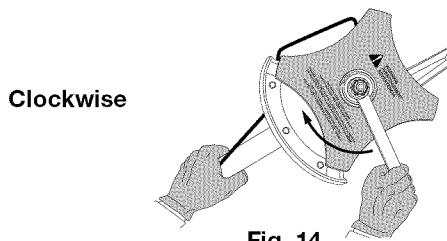

Fig. 14
3. While holding the locking rod, loosen the nut on the blade by turning it clockwise with a 13 mm closed-end or socket wrench (Fig. 14).